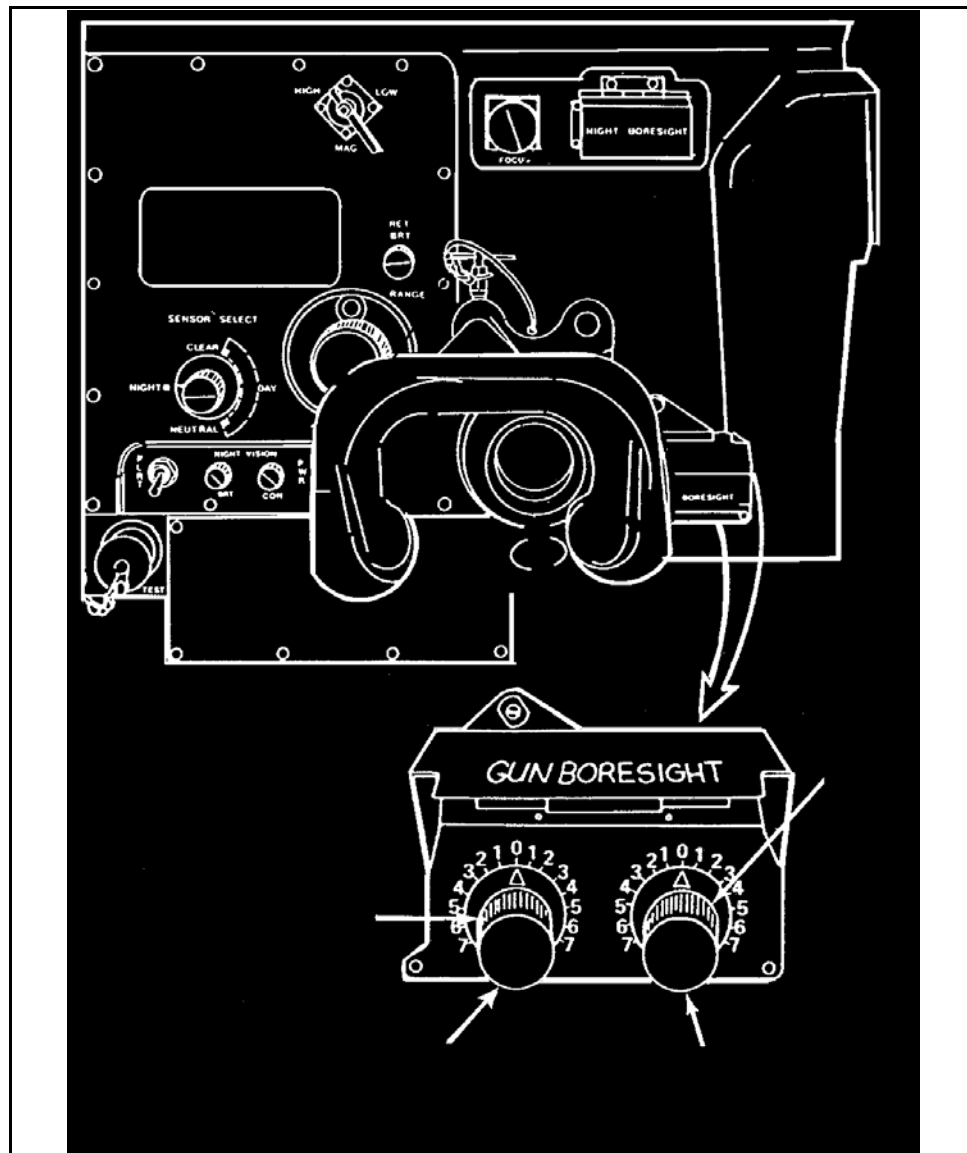

Figure 6. Gun boresight cover
- (1) Lift the gun boresight cover on the ISU (Figure 6, page 3-136).